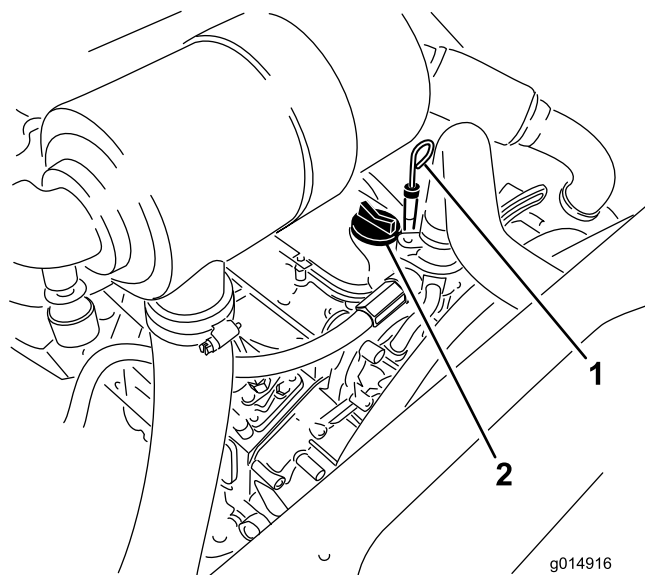

Figure 31
3. Remove the dipstick, wipe it clean, and install it (Figure 31).
5. If the oil level is below the Full mark, remove the fill cap (Figure 31) and add oil until level reaches the Full mark on dipstick.